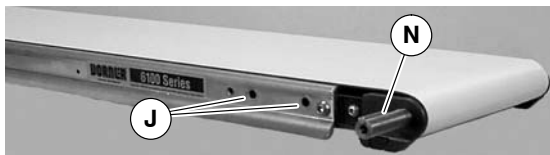

Figure 14
4b. Locate drive output shaft. Remove two screws (J of Figure 14). Install key (N).